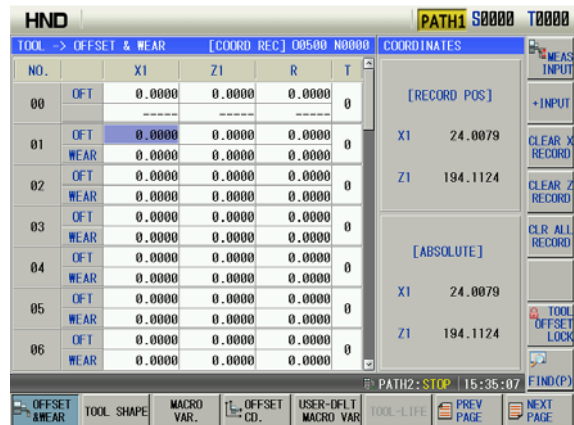

Fig 2
- 2) Press  and , absolute coordinates of X and Z (without including current tool offset values) are recorded in the CNC. After the absolute values are recorded correctly, there is a flash "Record coordinates" in the upper of the screen, and there is a prompt "Current X、 Z Absolute coordinates have been recorded" in the bottom of the screen, refer to the following Fig.2.